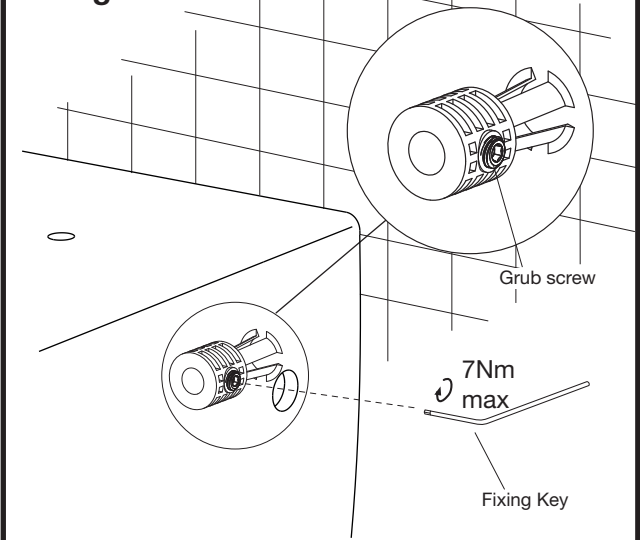

Fig. 2
- 9 - Fit the plastic fixing bushes into the holes provided with the grub screw facing the fixing holes in the side of the pan, as detailed in **Fig. 2**.